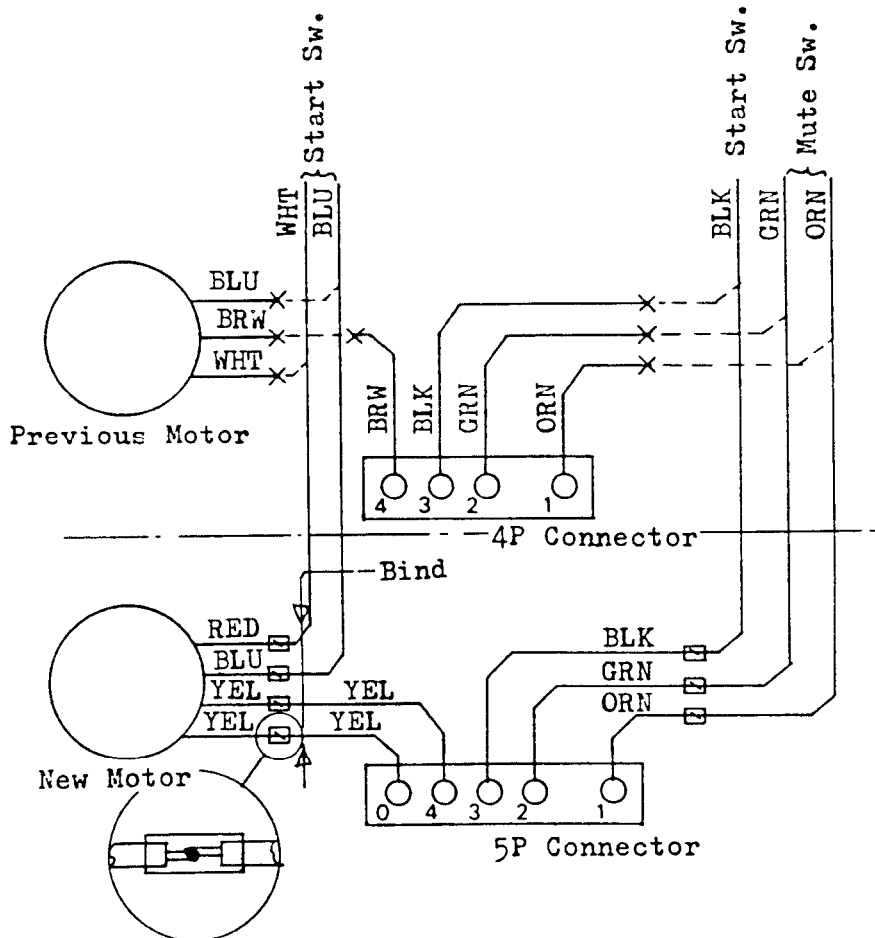

Fig. 7
- (3) Cover with tube for isolation at the connection point of two wires.
- (4) After replacement of motor ass'y, adjust the pulley position of the new motor as shown in Fig. 7, then check the position of driving belt to insure the following: